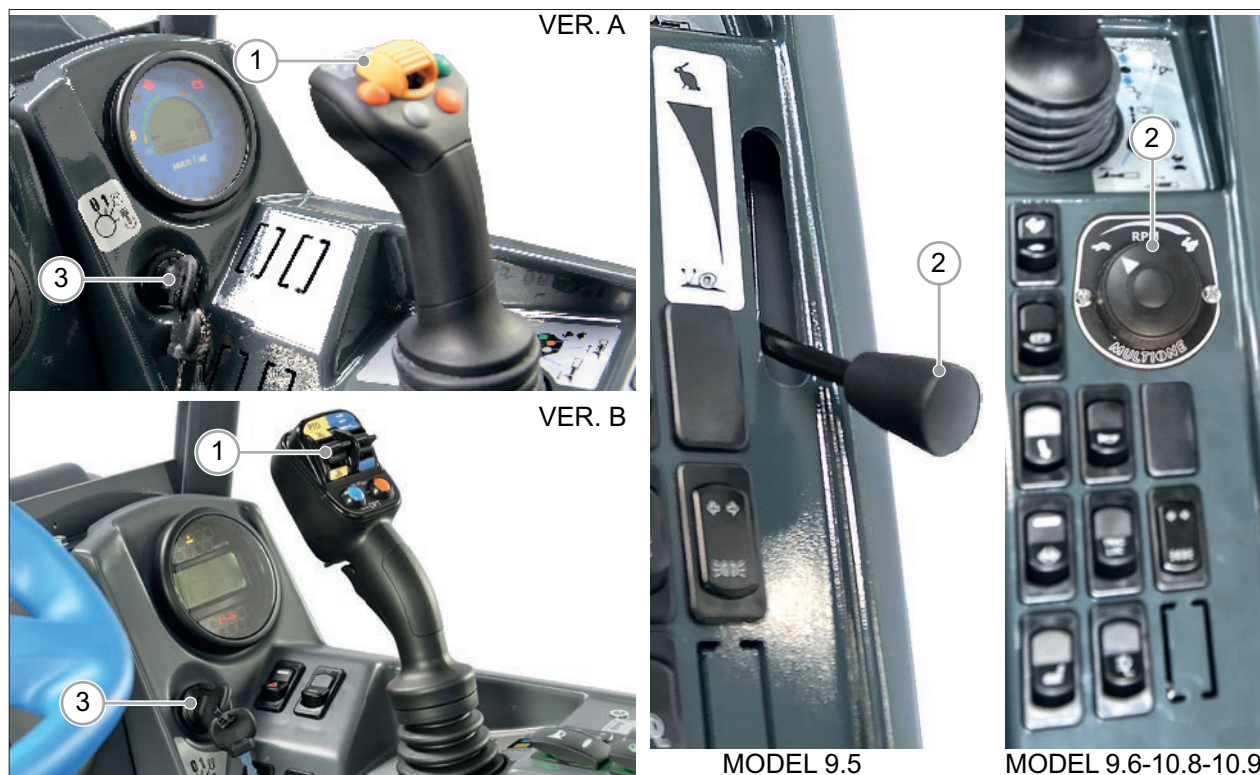

FIG. 27
- 1) Set the yellow selector switch (FIG. 27 - Ref. 1) in pos. "Center". If the switch is not in this position, the machine will not start.
- 2) Set the throttle (FIG. 27 - Ref. 2) at minimum: Pos. "Turtle".
- 3) Turn the key (FIG. 27 - Ref. 3) in Pos. "2"  to activate the glow plugs for at least 5 seconds.
- 4) Turn the key (FIG. 27 - Ref. 3) in Pos. "3"  for 2 seconds, if the engine does not start, release the key and start from step 1).